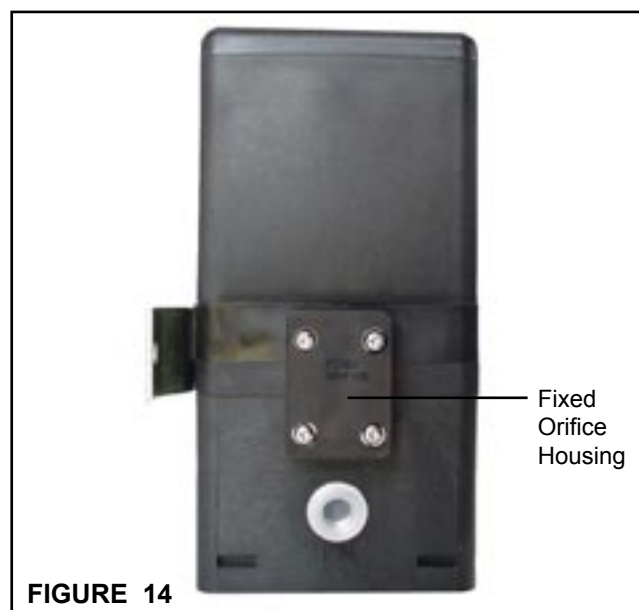

FIGURE 14
1. Remove Fixed Orifice Housing (See Figure 14).